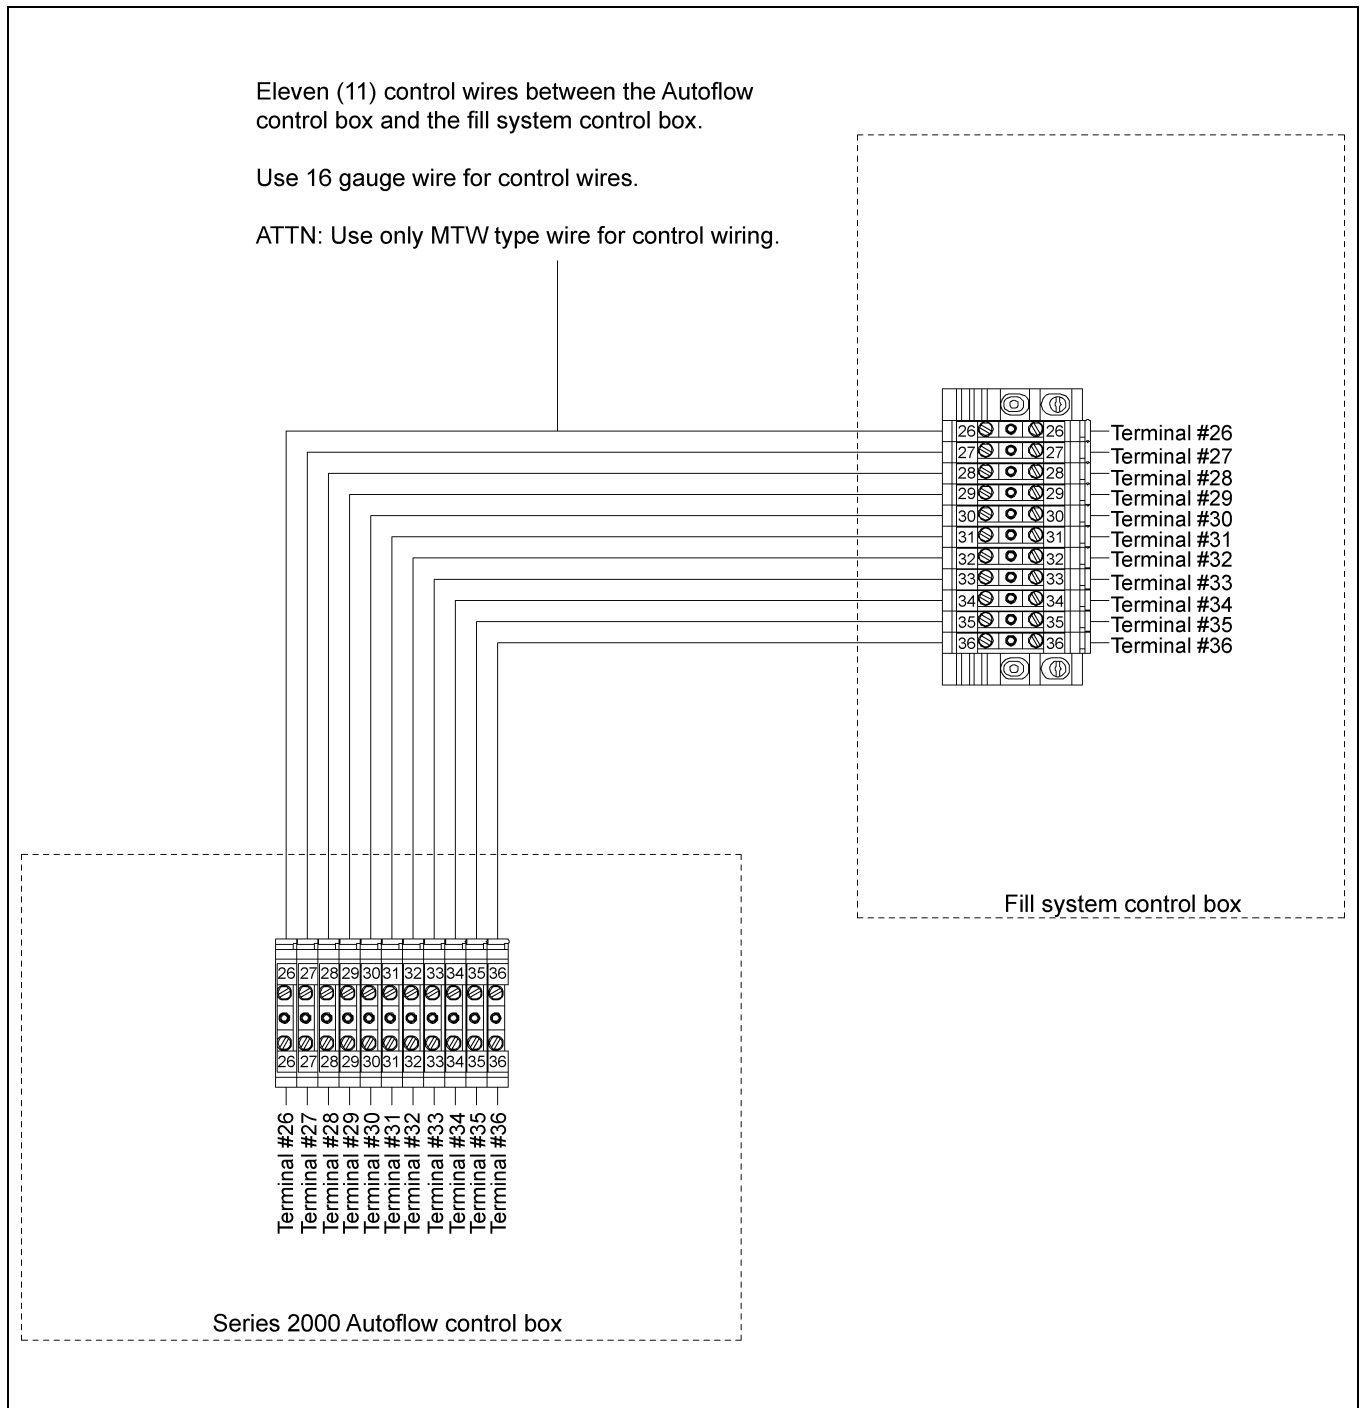

Figure 4L
1. Run eleven (11) control wires from the Autoflow control box to the fill system control box.
2. Connect the wires as shown in Figure 4L.